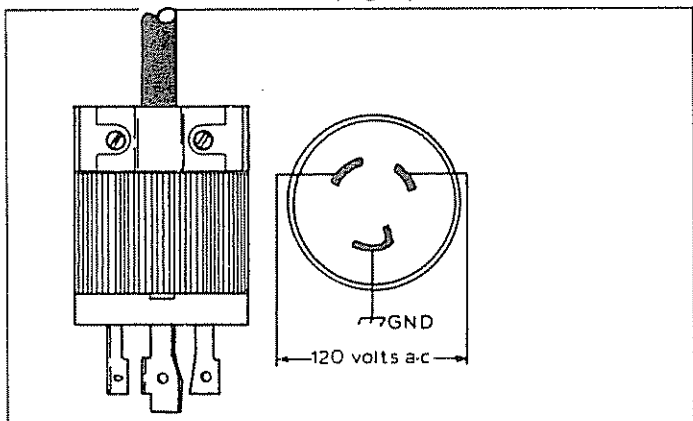

FIG. 3
- For the 120 volts, 20 amp locking type NEMA L5-20R receptacle, a well-insulated cord set with a NEMA L5-20P locking type connector plug must be properly connected to the receptacle and to the desired 120 volts, single phase, 60 Hz, AC load. Cord sets should be rated 20 AC amperes at 125 volts (or greater) for most electrical devices (Fig. 3).
- For 120 volts, 30 amp locking type NEMA L5-30R receptacle, a well-insulated cord set with a NEMA L5-30P locking type connector plug must be properly connected to the receptacle and the desired 120 volts, single phase, 60 Hz, AC load. The cord set should be rated 30 AC amperes at 125 volts (or greater) for most electrical devices (Fig. 3).